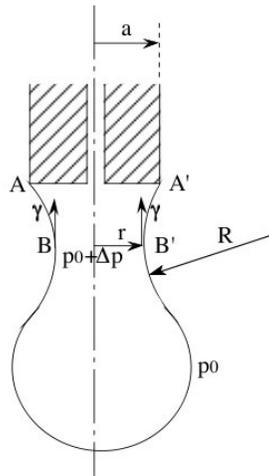

Figure 4: Details of a falling drop
- the Laplace overpressure due to the two radii of curvature in the throat: $\Delta p = \gamma \left(\frac{1}{r} - \frac{1}{R} \right)$ exerting on the surface πr^2 (figure 4).